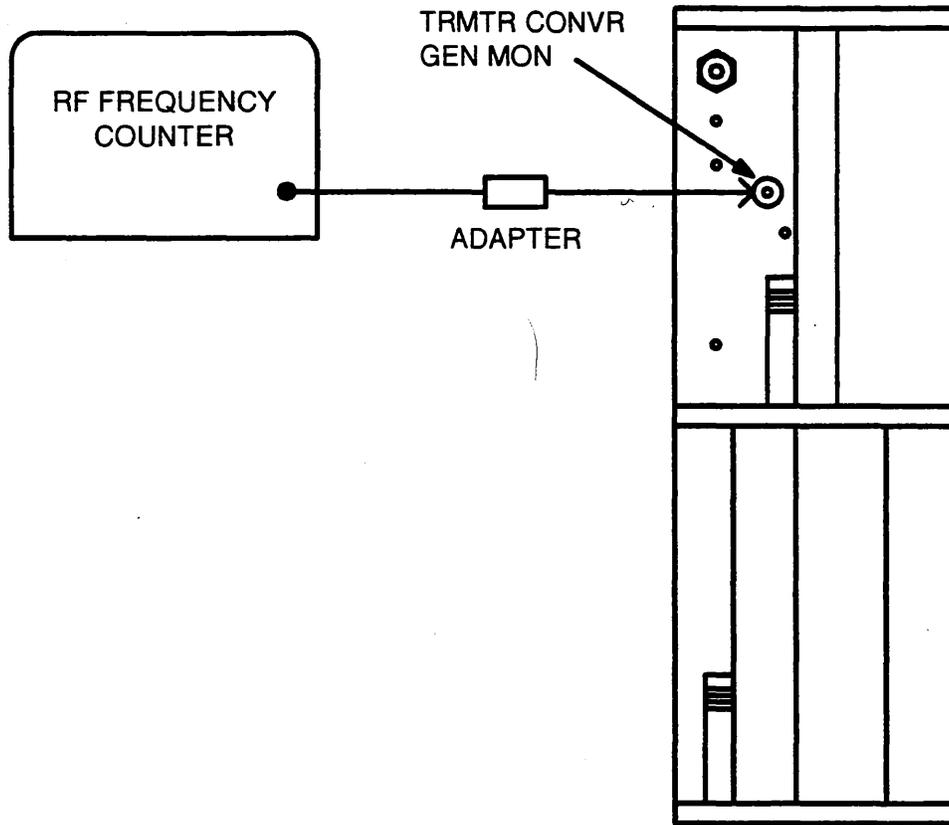

Figure 2-MWV GEN Frequency Measurement
- Refer to Figure 2.
4. Condition the test equipment to measure the appropriate center frequency, and connect it to the GEN MON jack. Refer to Figure 2.